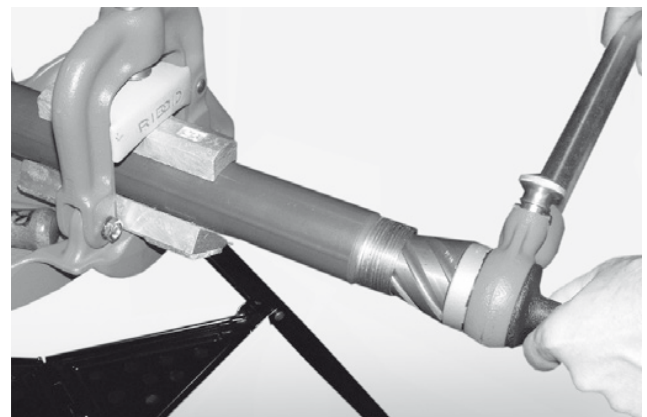

Figure 18: Using a reamer to remove rough edges of cut PVC-coated conduit.
c) Following the cutting operation, use a reamer to remove rough edges (see Figure 18).